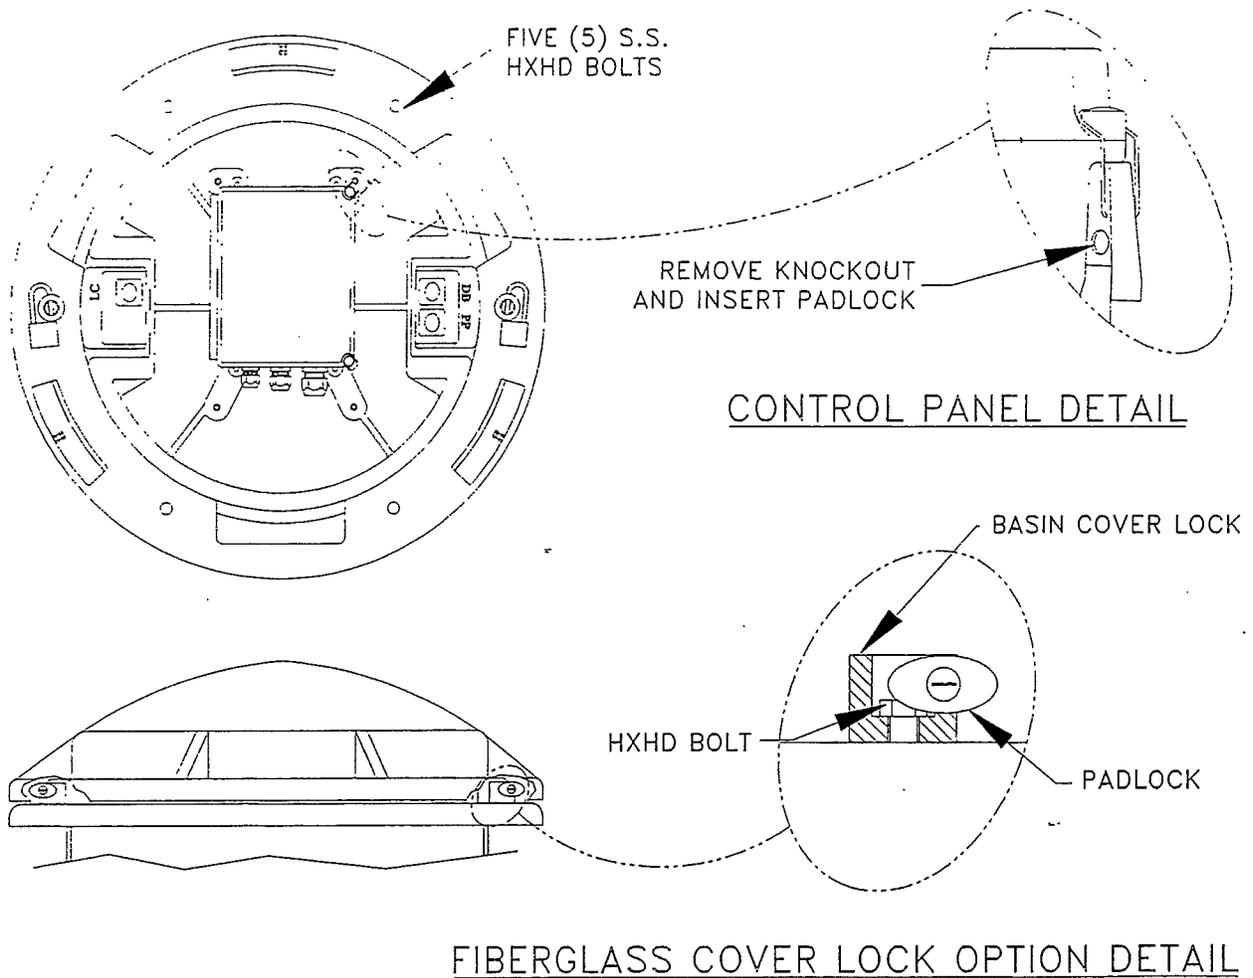

Fig. 17
- Install the lock as shown in Figure 17.